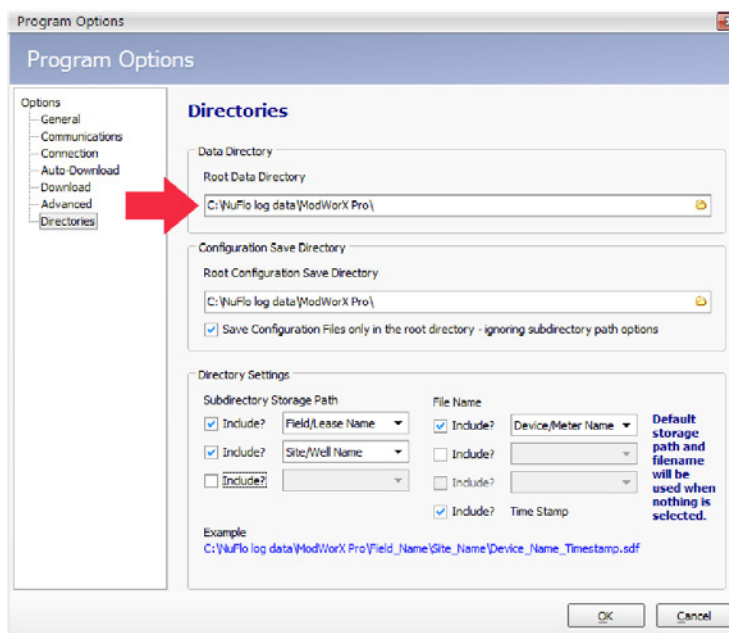

Figure 14.6
3. To change the directory to which non-configuration data is saved, click in the Data Directory portion of the dialog (Figure 14.6, page A-18), type the desired filepath or click the Folder icon to browse to the desired directory.